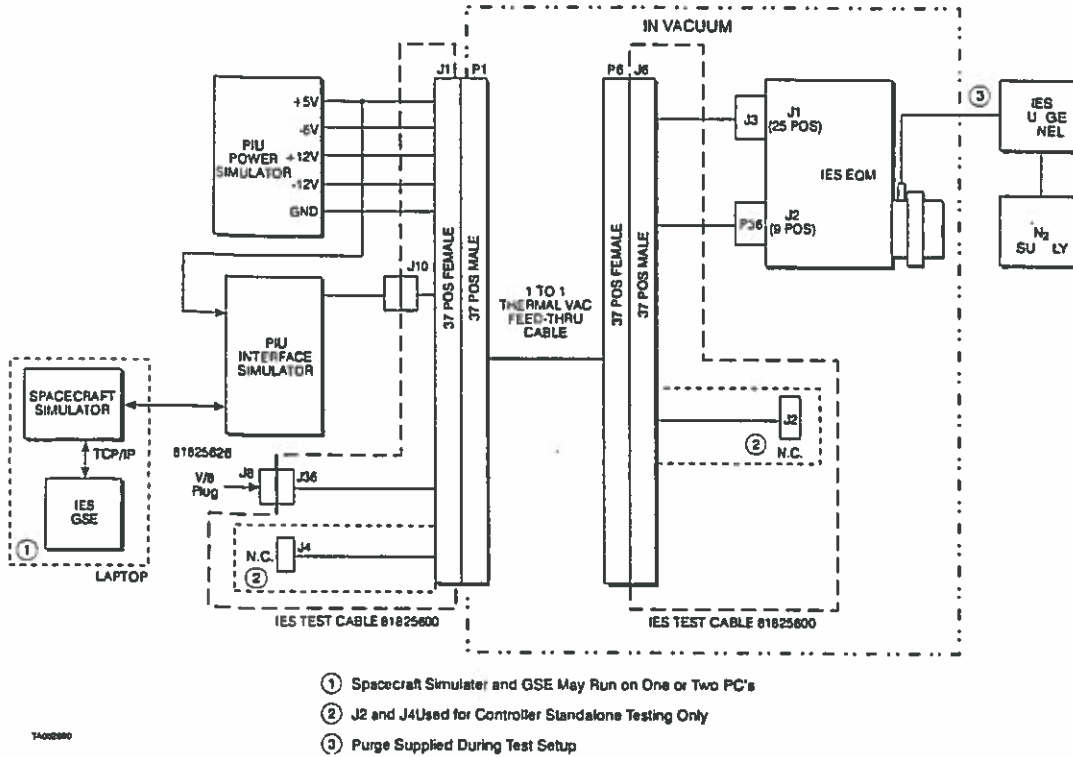

Figure 2. IES Test Setup
- \_\_\_\_\_ k) QA Verify test setup per Figure 2.